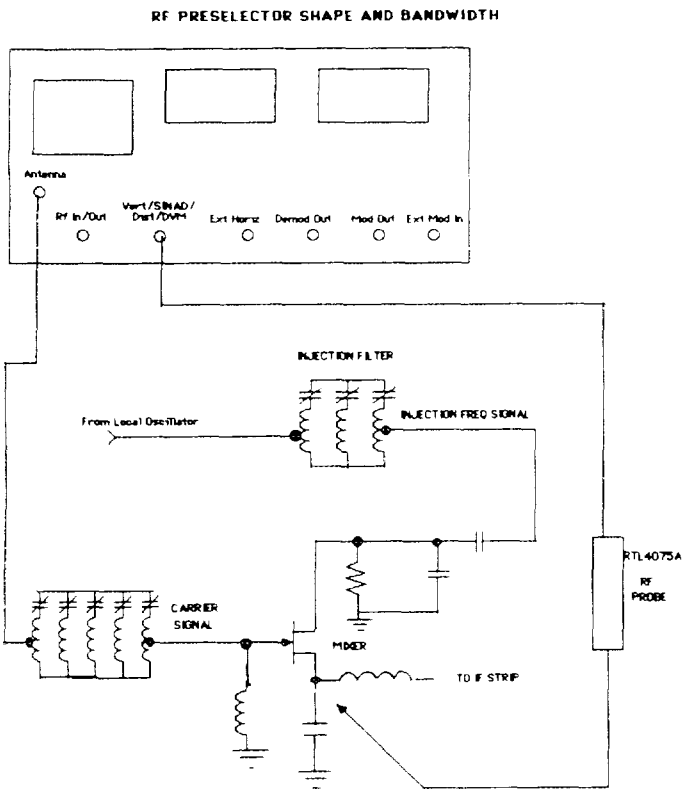

FIGURE 5.4—PROBE SETUP
1. Connect the service monitor's "Antenna" to the antenna connector of the receiver under test. Connect the "Vert. SINAD/Dist" port to the RF probe. Connect the probe to the first available low impedance point following the preselector, as shown in figure 5.4.